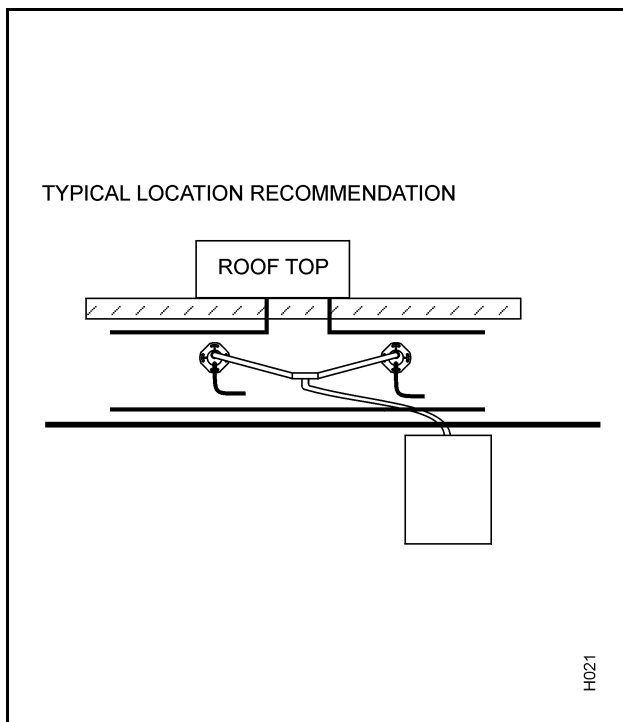
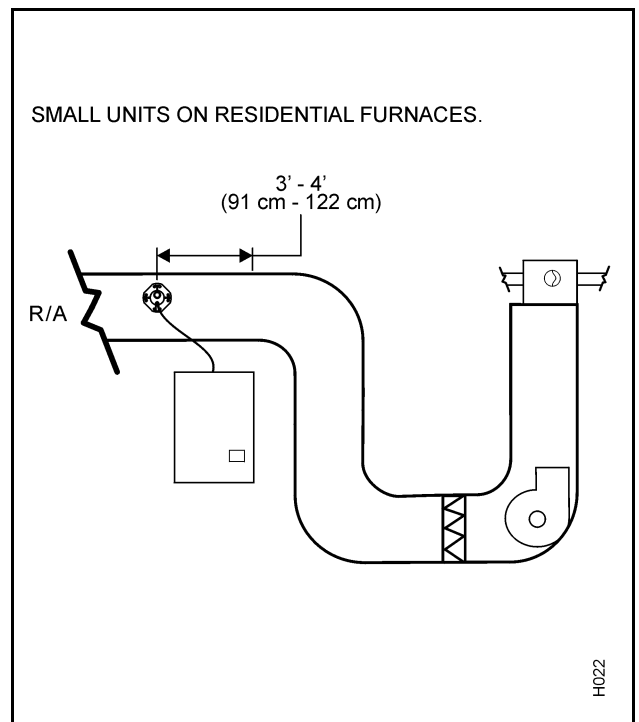

Figure 15. Roof Top Units 2-20 Tons – Typical Location
Figure 16. Small Units On Residential Furnaces
- (1) Representations of typical applications are found in Figure 15 and Figure 16.